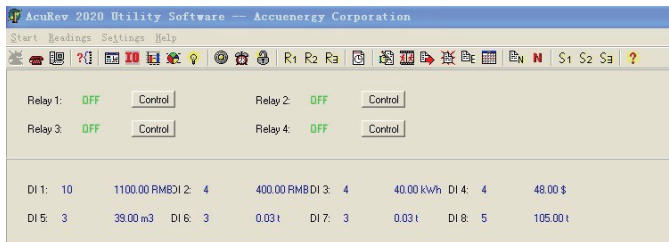

Figure 4-5 DI/RO
As Figure 4-5 shows, AcuRev 2000 has 4 Relay Outputs (RO), 8 Digital Inputs (DO). Please refer to Figure 4-6 for DI/RO related settings.
If the Relay Output type is set as Relay Control, click "Control" in Figure 4-5 to send command "close" or "open" to the relay. When the relay is set as alarming output, Relay Control function will be disabled.